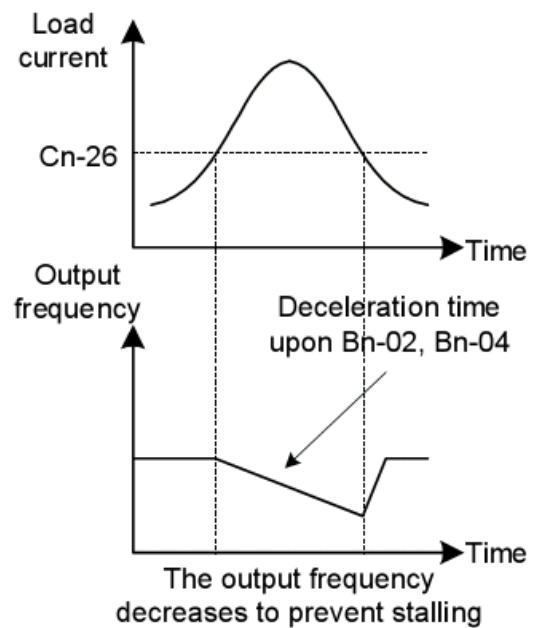

Fig.4-16 Run Stall Prevention Function
- b. After abnormality action reset (press RESET key or fault reset terminal ③ action)
(19) Stall prevention level during acceleration (Cn-25)
(20) Stall prevention level during running (Cn-26)
- Stall prevention during acceleration: when current over Cn-25 setting value in motor acceleration,it will accelerate to run automatically.Please refer to the Fig.4-16.